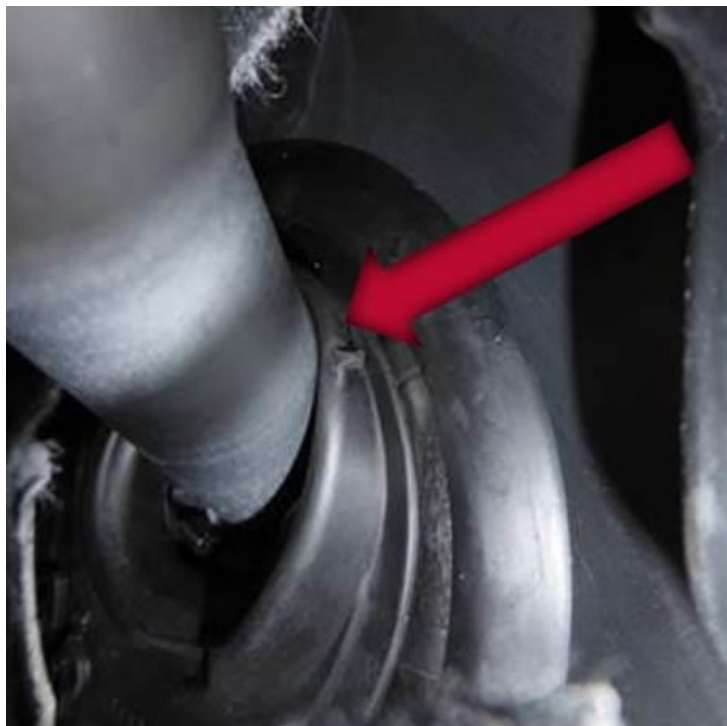

Figure 1. Steering shaft rests on the sealing sleeve (also known as sealing lip).
- The steering shaft rests on the cone of the sealing sleeve (Figure 1).